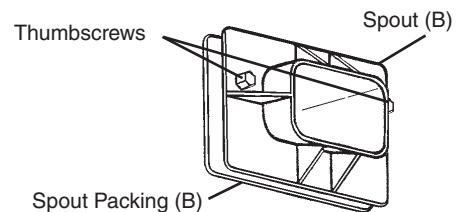

Fig. 3
- 7) In the storage bin, remove the thumbscrews attaching spout (B), then remove spout (B) and spout packing (B). See Fig. 3.